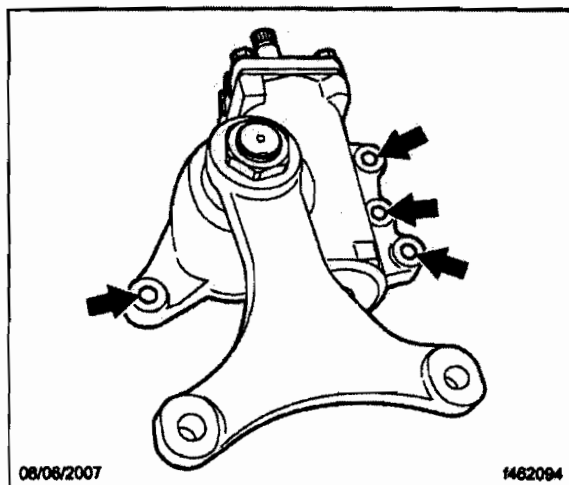

Fig. 2, Steering Gear Mounting Bolts
- 5.1 Using a 1-3/16 impact socket, loosen the four mounting bolts. See Fig. 2.